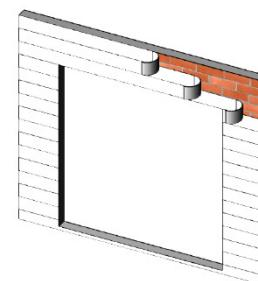

Figure 25:
4. Weather resistant building paper should be applied in a weatherboard fashion to complete the installation (Figure 25).